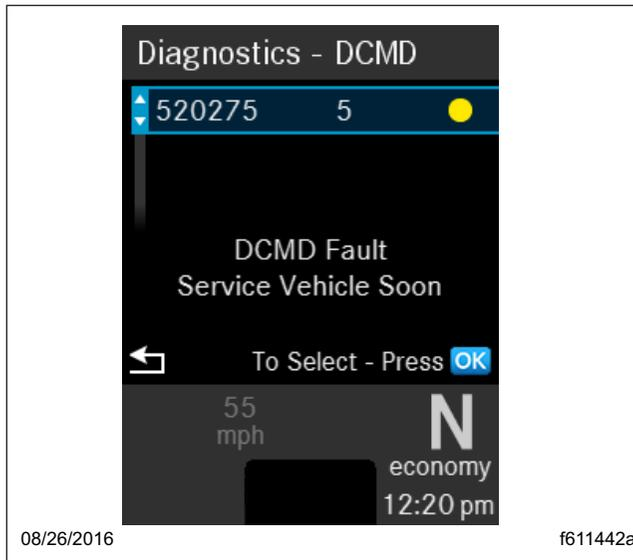

Fig. 11.3, Information Screen for an Active Fault Code
3. Locate the code to troubleshoot from the list of active fault codes, then press OK to access the information screen. See Fig. 11.3.